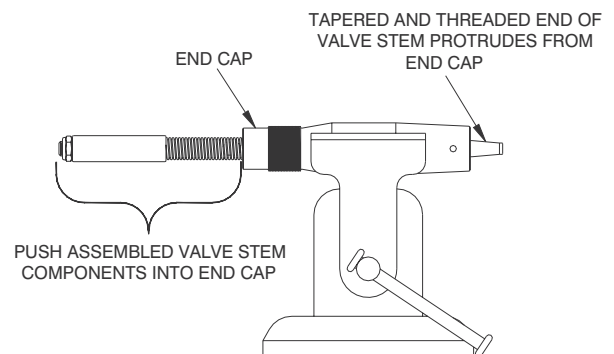

Figure 9-30. Threaded End of Valve Stem
4. Continue to slide the Valve Stem (11) into the Valve Guide (14) until the threaded part of the Valve Stem protrudes from the other side of the End Cap (16), as shown in Figure 9-30.